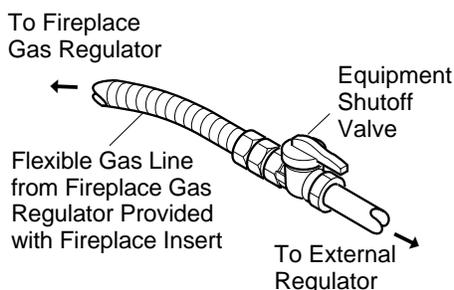

Figure 20 - Attaching Gas Lines
NOTICE: Most building codes do not permit concealed gas connections. A flexible gas line is provided to allow connection with the fireplace (see Figure 20). The flexible gas supply line connection to the equipment shutoff valve should be accessible.
4. Connect gas supply line to flexible gas line attached to gas regulator of fireplace insert (see Figure 20). Use sealant on all male pipe threads.